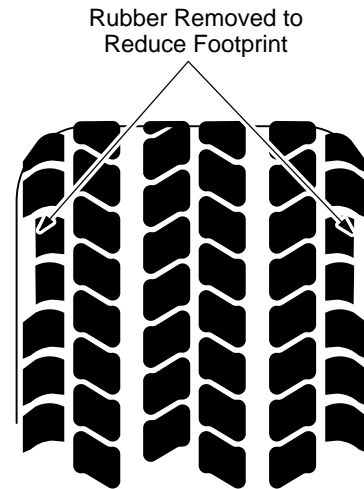

Figure 3-22 Shoulder Grinding
- Reduces the footprint area by reducing tread **width**, at the point of high force variation. See Figure 3-22.